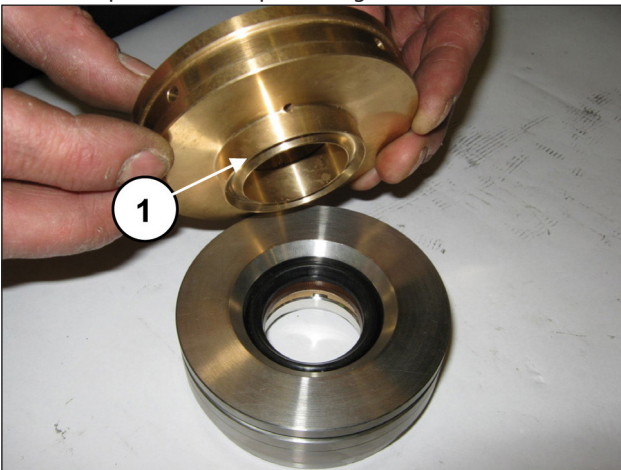
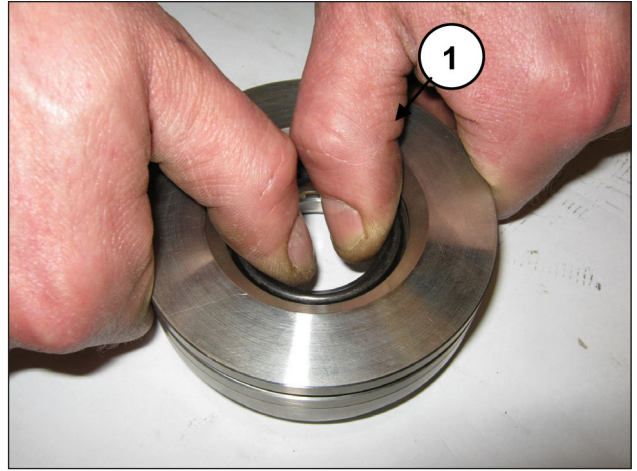

Fig. 172
Fig. 173
Separate the seal support from the liner (pos. ①, Fig. 172) to access the pressure seals (pos. ①, Fig. 173).